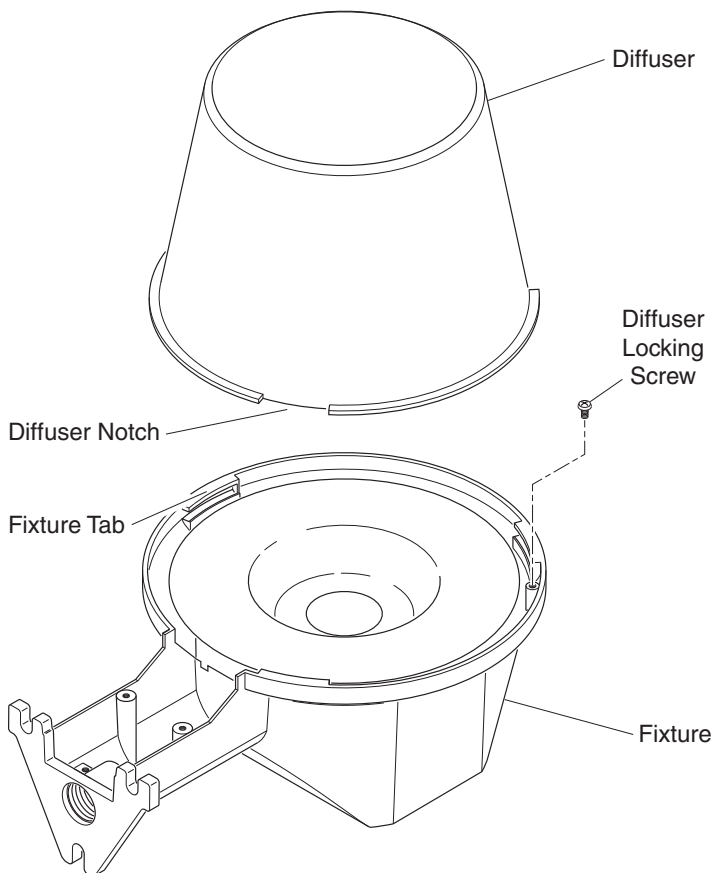

Figure 1
2. Remove diffuser locking screw from fixture (see Figure 1).
3. Align the notches in the diffuser with the tabs on the fixture and place the diffuser on the fixture (see Figure 1).
4. Rotate the diffuser clockwise until the diffuser stops (see Figure 1).
5. Install locking screw removed in step 2 (see Figure 1).